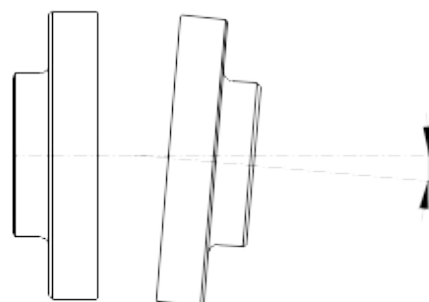

Fig. 3a
- Parallel, i.e. no angular displacement is present (voir fig.3A § 7 - Coupling Disassembly page 4)